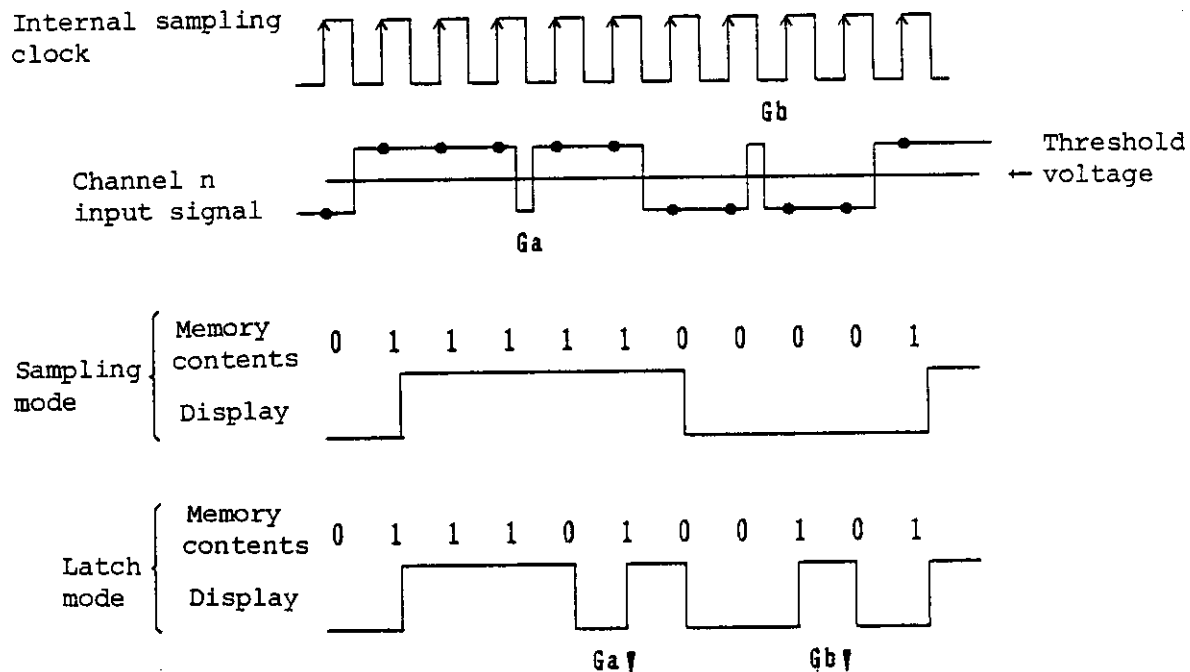

Figure 4-6 Sampling Mode and Data Display
- SAMPLING MODE: The timing analyzer sampling system can be divided into two types: SAMPLE and LATCH modes. The sampling mode samples the input signals at the internal clock sampling edge. Therefore, no input signal alteration can be detected between sampling intervals (generally termed as a glitch). The latch mode can detect the glitch. The minimum detectable glitch width is 5 ns. The display relationship of the input signal with the data obtained through these sampling modes is illustrated in Figure 4-6.